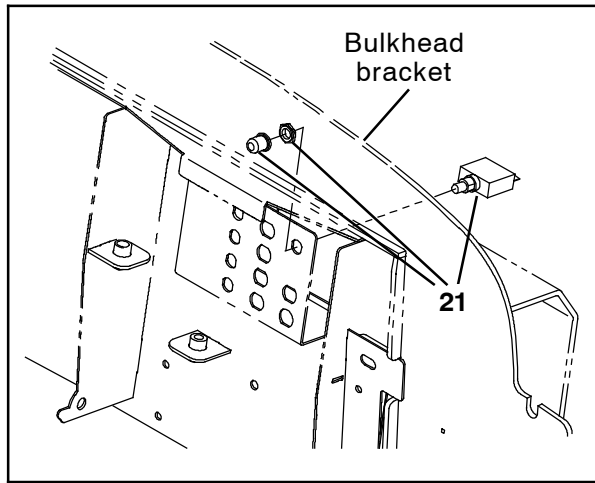

FIG. 9
19. Insert a 25- Amp circuit breaker (21) into circuit breaker location CB9 on the rear breaker bracket. (Fig. 9)
20. Connect the main wire harness to the 25- Amp circuit breaker (21) installed in the previous step. (Fig. 9/Fig. 13)